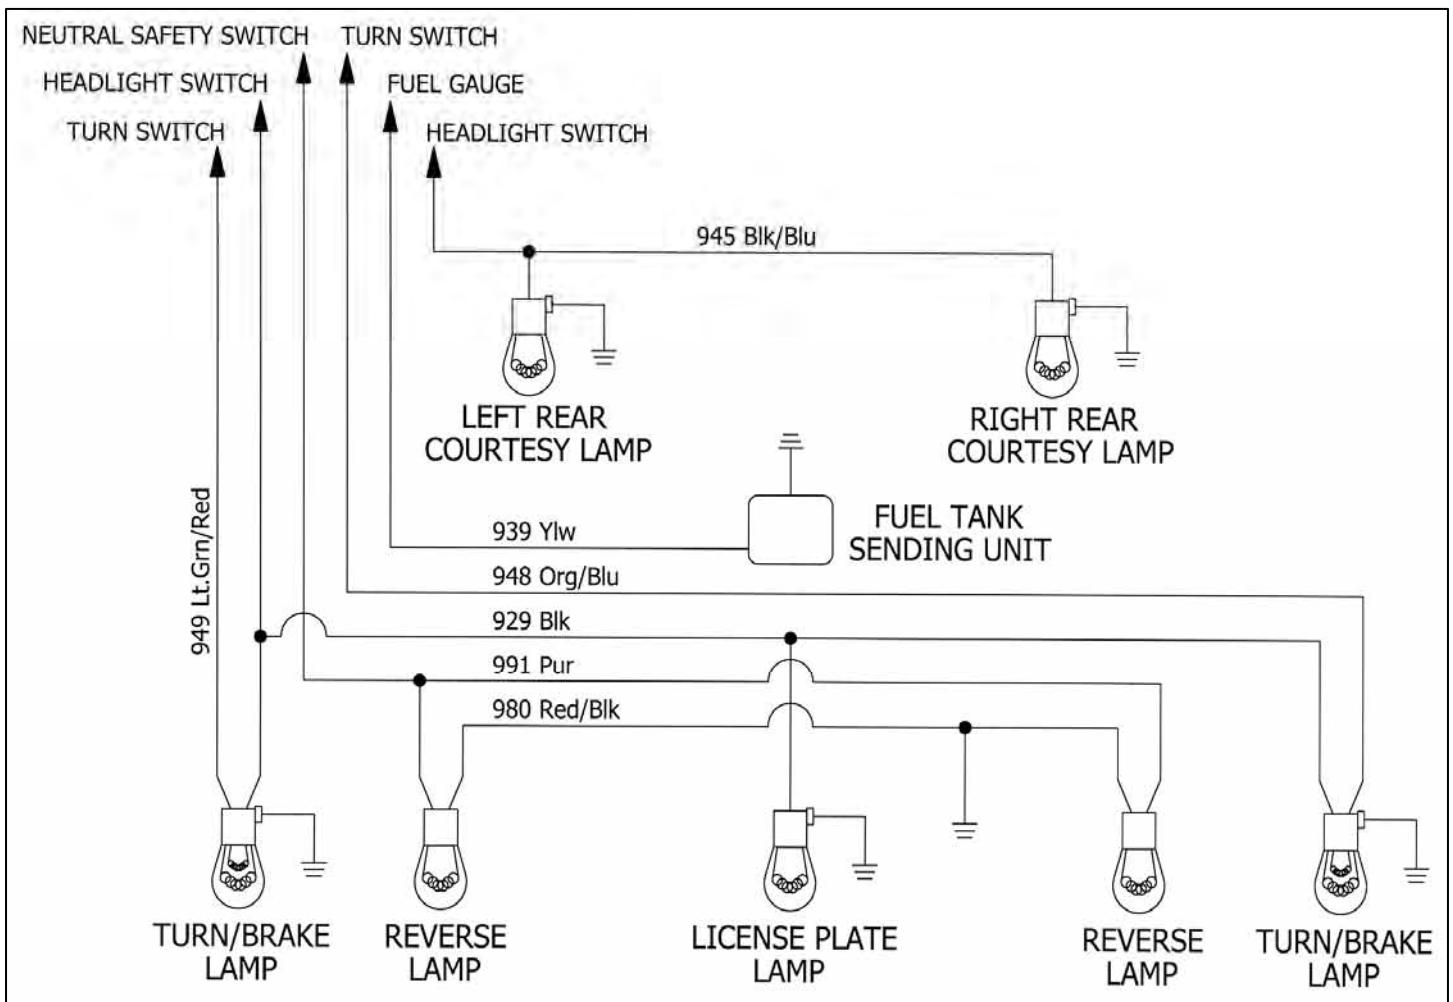

Figure 7-14 Tail Section Wiring
- 7.15.1** Connect the wires in the TAIL SECTION according to **Table 8.2 and Figure 7-14.**